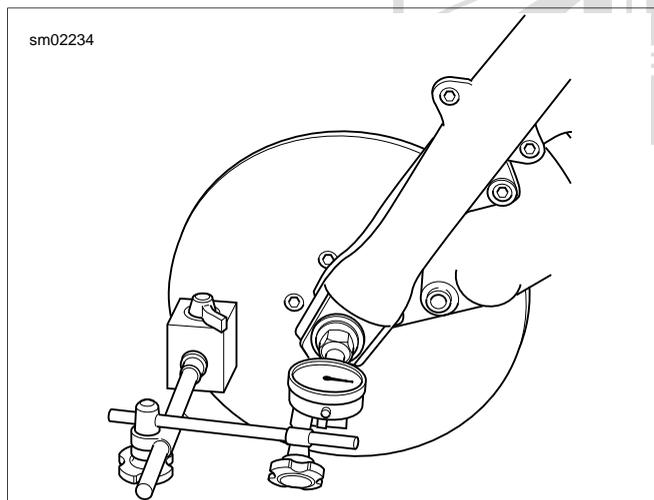

Figure 2-25. Wheel Bearing Inspection (Front Wheel Shown)
- Mount a magnetic base dial indicator to the brake disc. Set the indicator contact point on the end of the axle. See Figure 2-25.